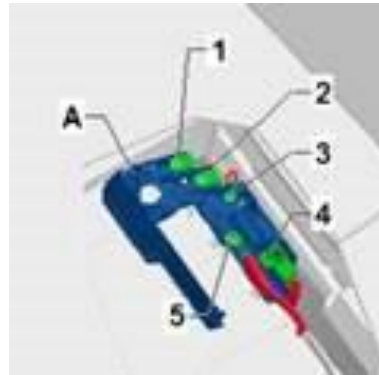

Figure 1. Fuse carrier's power supply to the power steering control module, J500 (address word 0044).
1. When the vehicle is started, the voltage should not drop by more than 1 Volt at contact 4 on the fuse carrier. This is power supply to the power steering control module, J500 (address word 0044) (Figure 1).